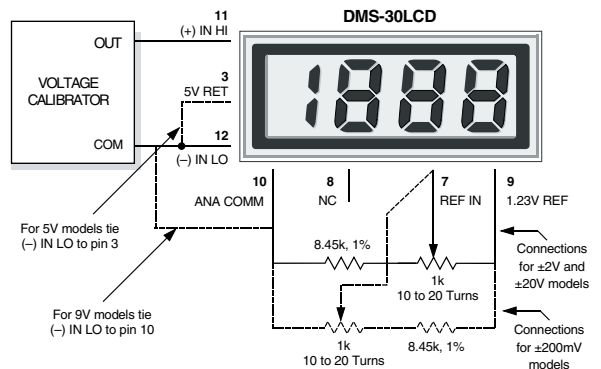

Figure 9. External Gain Adjustment
- 7. Gain Adjust:** There is a gain-adjust potentiometer on the back of each meter. It has approximately ±50 counts (±2.5%) of adjustment range. Since these devices essentially have no zero/offset errors, a gain adjustment is effectively an overall accuracy adjustment. Though they may be performed at any point (except zero), accuracy adjustments are most effective when performed with higher level input signals. Refer to Figure 9 for applications requiring greater (±10%) gain adjustments.
7. External Gain Adjustment: Connect REFERENCE OUT (pin 8) to REFERENCE IN (pin 7) for normal, factory calibrated, operation. Use the +1.23V REFERENCE OUT (pin 9) for applications needing external gain adjustment. Figure 9 shows the wiring configuration for each model. Calibration is performed with a precise, near-full-scale, input voltage.